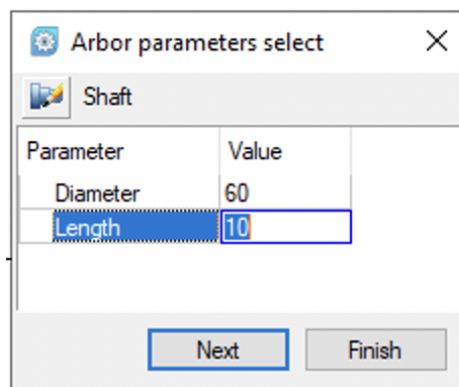

Fig. 3. The **Arbor parameters select** dialog box
1.3. As you move the cursor, you will see how the diameter and length of the shaft section change in the **Arbor parameters select** dialog box (Fig. 3). Set the value of the shaft diameter 60 and length 10 by moving the cursor. You can move between the fields of values using the **up** and **down** keys. You can enter values in the digital keyboard, if it is more convenient. Press **Next** or just left-click in the model space, if the values are set by moving the cursor, to confirm.